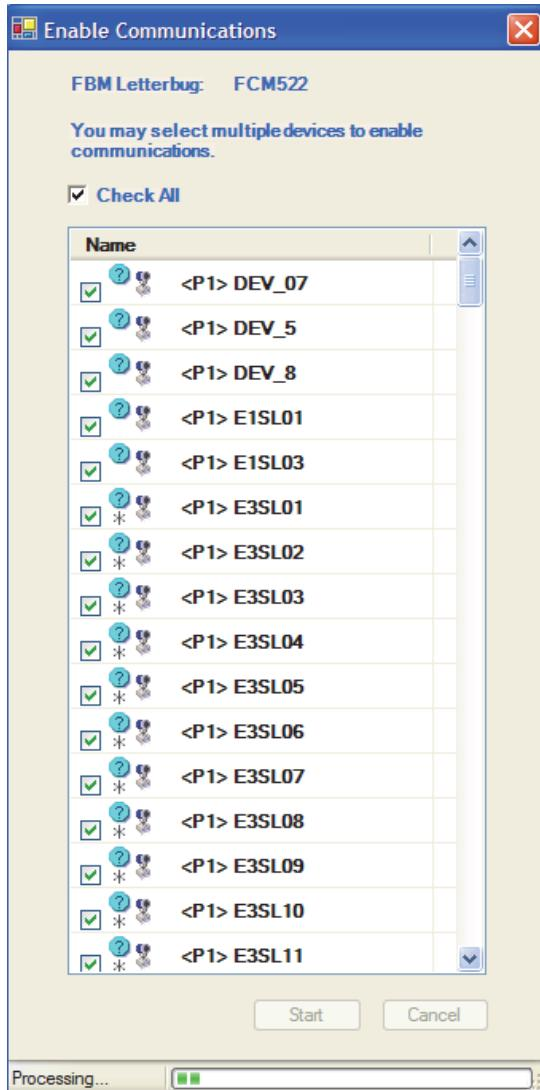

Figure 8-15. Enable Communications Dialog Box
2. The Enable Communications (shown in Figure 8-15) or Disable Communications dialog box appears showing only the valid devices for which communication can be enabled or disabled. Click the **Name** column heading to sort the list in ascending or descending order. (By default, the list of valid devices appears sorted in ascending order.) Select the desired devices for which you want to enable or disable communications and click **Start**. Information on the status bar shows the progress of the action.